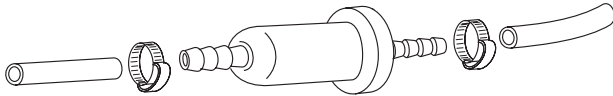

Figure 19. Fuel Filter (Typical)
- Replace the engine fuel filter (Figure 19) every 200 hours.